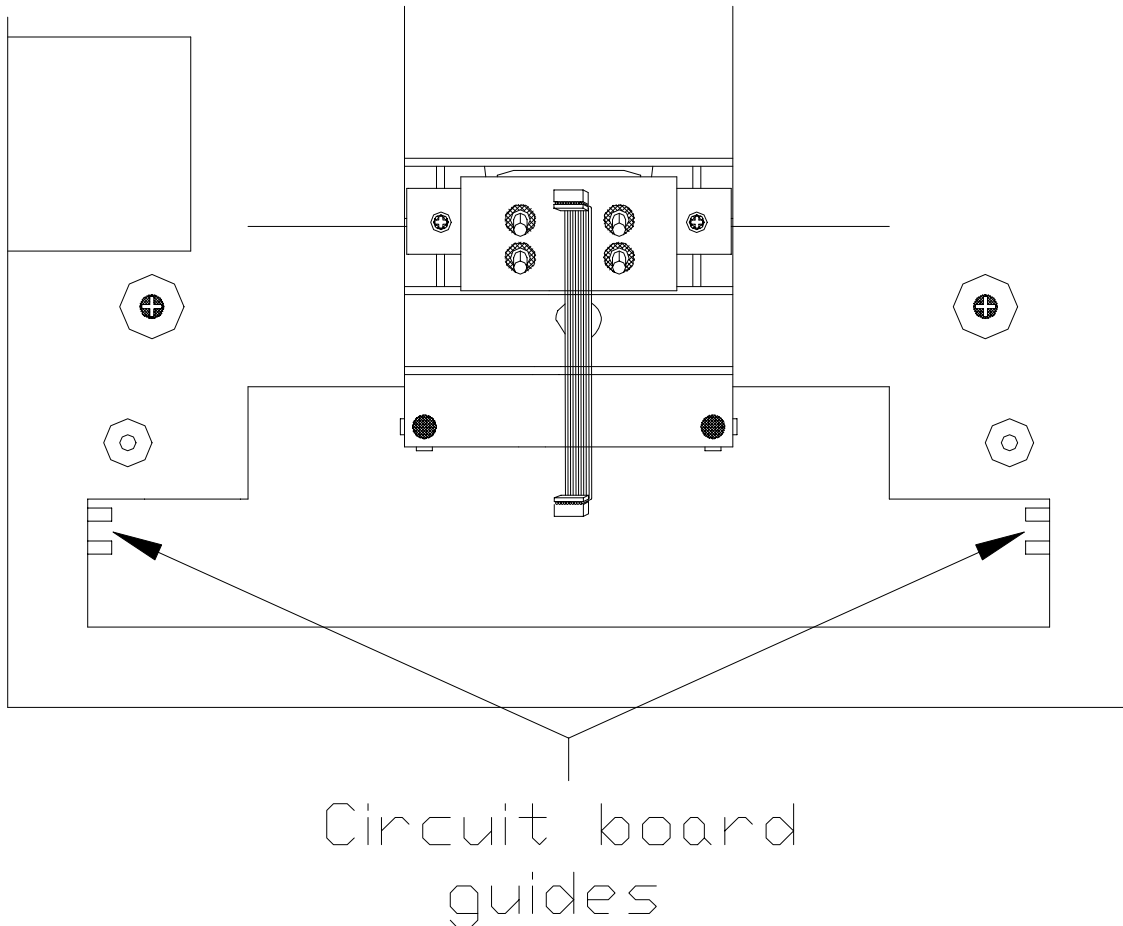

Figure 8.
11. Carefully slide circuit board back into the chassis, using the circuit board guides to locate the circuit board correctly, until the camera's ribbon cable can be inserted. See figure 8 below.